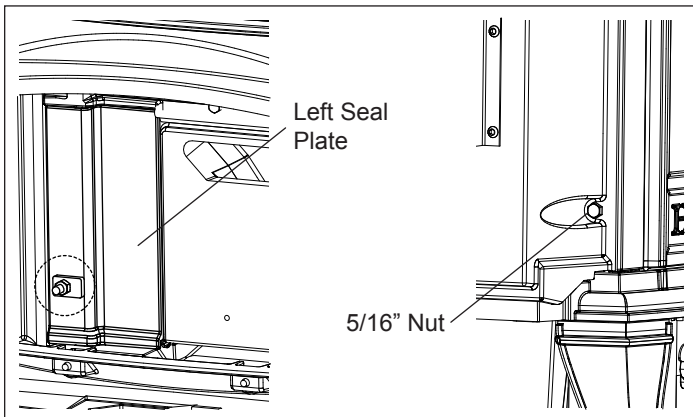

Figure 6
6. To remove the left and right seal plates you must first remove the lower rear heat shield. Once the heat shield is removed, you'll need to use a wrench or socket to hold the bolt in place while you loosen and remove the 5/16" nuts from inside the firebox. Do this for both sides. Figure 6.